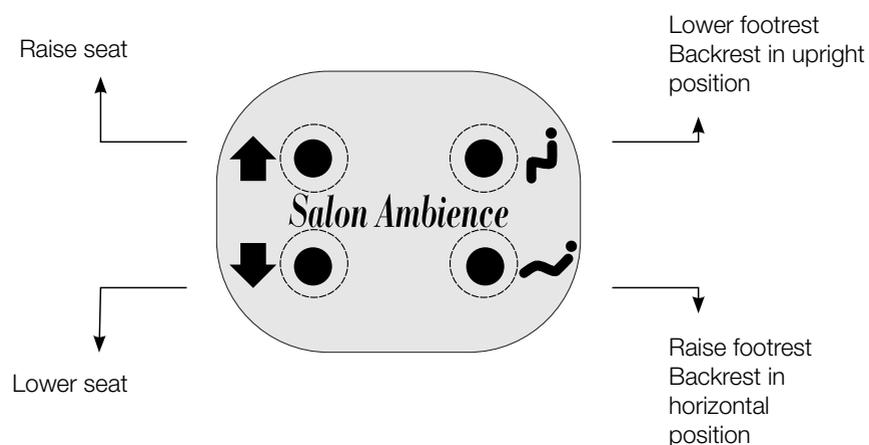

fig.2 Chair and footrest lowering
- 8_ Lower the chair and the footrest as low as possible, using the appropriate push-button panel key as shown in figure 2. Each key has to be held down to command the actuator motion to make the downward movement begin. To stop the downward movement, release the command key.
- 11_ Lift the chair using the appropriate push-button panel keys as shown in figure 2, so that the operator's arms are free and he can take a natural position while washing hair.